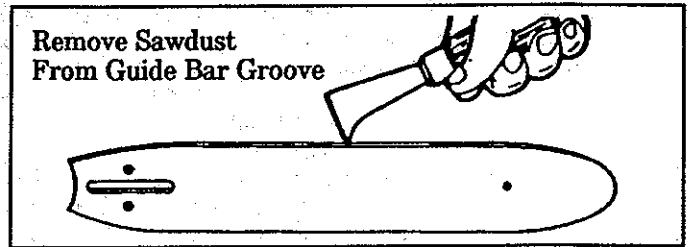

Figure 34
- c. Remove sawdust from the guide bar groove periodically with a putty knife or a wire. Figure 34.